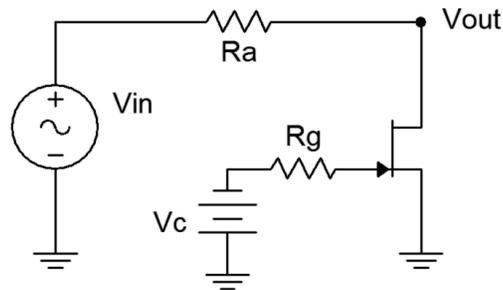

Figure 1
1. Consider the circuit of Figure 1 where  $V_{in}$  is a 100 mV peak sine at 1 kHz,  $R_a = 4.7 \text{ k}\Omega$  and  $R_g = 10 \text{ k}\Omega$ . As  $V_c$  varies between 0 and  $V_{GS(off)}$ , the resistance of the JFET varies between a near open and a minimum value of  $R_{ds(on)}$ .  $V_{out}$  is derived from a voltage divider between  $R_a$  and the JFET's resistance.
2. Build the circuit of Figure 1 with  $R_a = 4.7 \text{ k}\Omega$  and  $R_g = 10 \text{ k}\Omega$ . Set  $V_{in}$  to 100 mV peak at 1 kHz. Set the control voltage,  $V_c$ , to 0 VDC. Measure the signal at  $V_{out}$  using the oscilloscope and record the value in Table 1. Also, using the voltage divider rule, determine the effective resistance of the JFET.